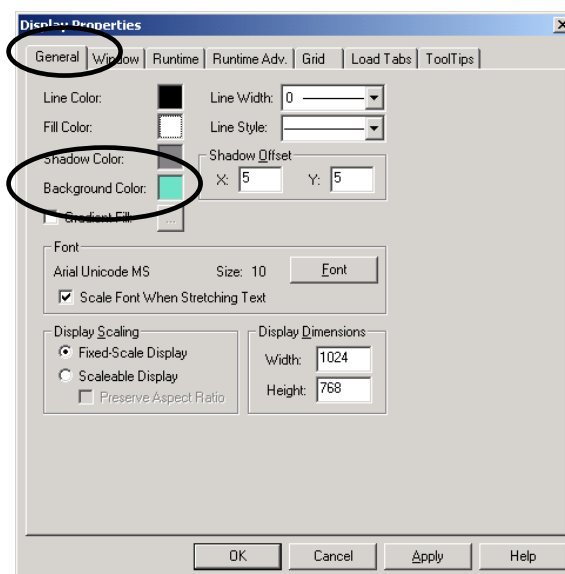

Figure 5.7
2. Here on the **General** tab we will set our background color, also look at the tab and make sure that all other settings are the same as shown in **Figure 5.7**.